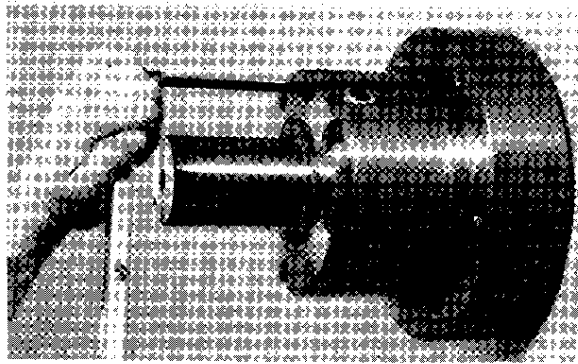

Fig. 7
19. Take unit out of vice and turn it over. Remove eight cap screws (1) from seal carrier (3). (Fig. 7)
20. Remove seal carrier (3) from housing (12).
28. Lubricate output shaft (7) and shaft seal (2). Place seal carrier (3) with backup ring, quad ring and 'O' ring installed, over output shaft (7) and carefully slide seal carrier into position. (Fig. 8) Line up holes, insert eight socket head cap screws (1) in holes and tighten to 20-25 ft. lbs. torque. (Fig. 7)